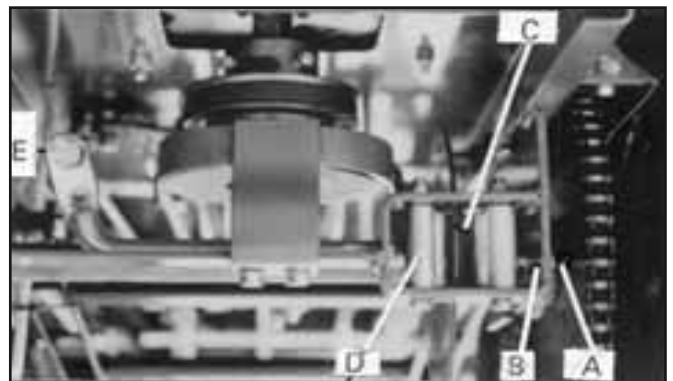

Fig. 15
Clutch/Brake pedal pivot. *Fig. 15*
1. Loosen locknut 'A' *Fig. 15*
2. Adjust locknut 'E' *Fig. 15*. Till brake arm 'D' Pad comes into contact with disc.